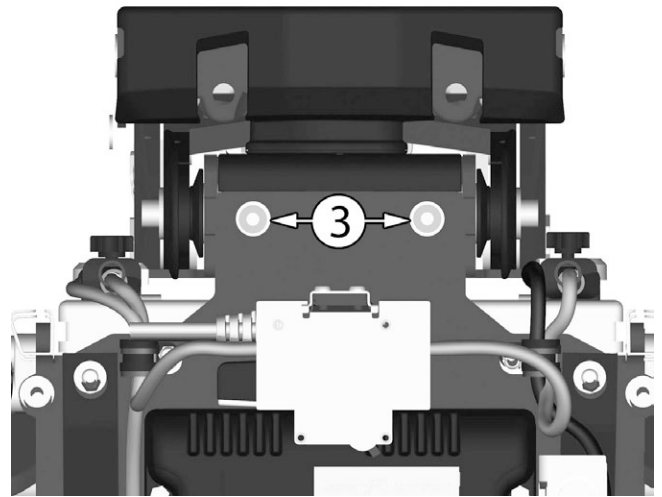

Figure 94. The two screws holding the AP Elevator at the back.
- 15.** Remove the two screws (3) holding the AP Elevator at the back. See fig. 94.